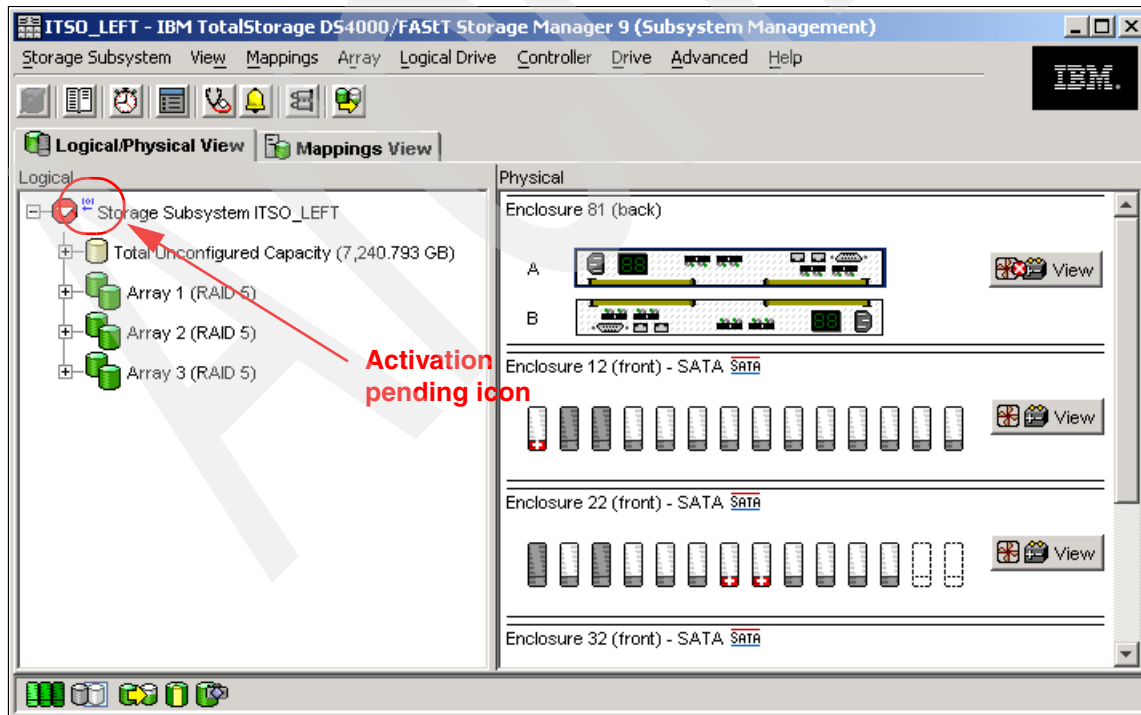

Figure 9-12 Subsystem Management window: Firmware ready for activation
4. After clicking **Close**, you are back in the Subsystem Management window. Because this is a staged firmware upgrade, the new firmware is now ready for activation. This is indicated by an icon (blue 101) next to the Storage System name, as shown in Figure 9-12.